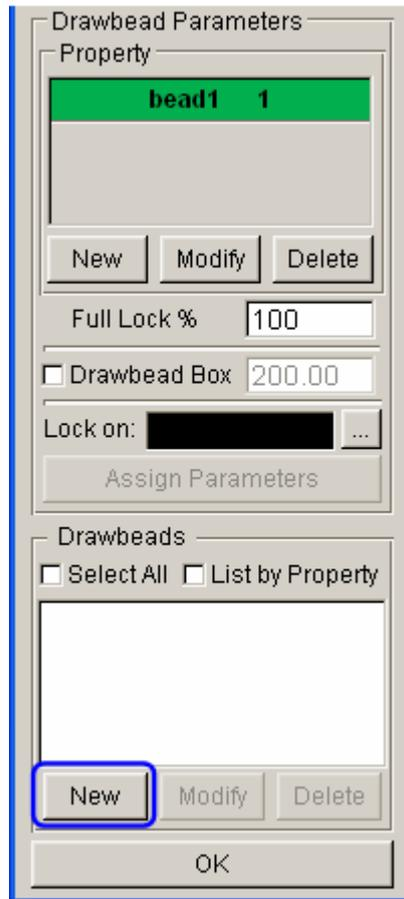

Figure 7.33 Create new drawbead
16. Again, open the DRAWBEAD dialog box in the AUTOSETUP interface. Click **New** button to create a new drawbead. See Figure 7.33.
21. Click  button illustrated in Figure 7.33 to lock drawbead to BINDER. Select **BINDER** from the SELECT PART dialog box.